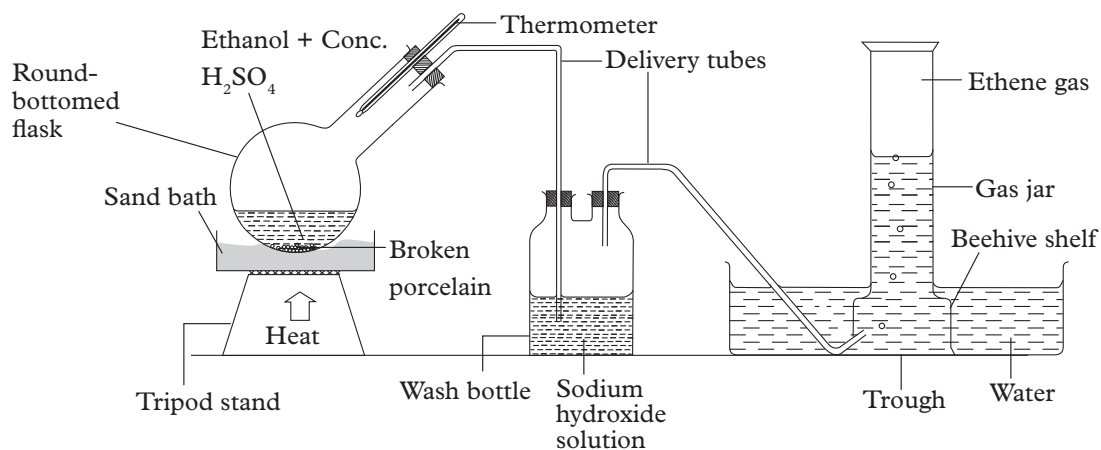

Fig. 9.2: Laboratory preparation of ethene gas
2. To the round-bottomed flask, add 2-3 g of clean dry broken pieces of porcelain or sand and assemble the apparatus as shown in Fig 9.2